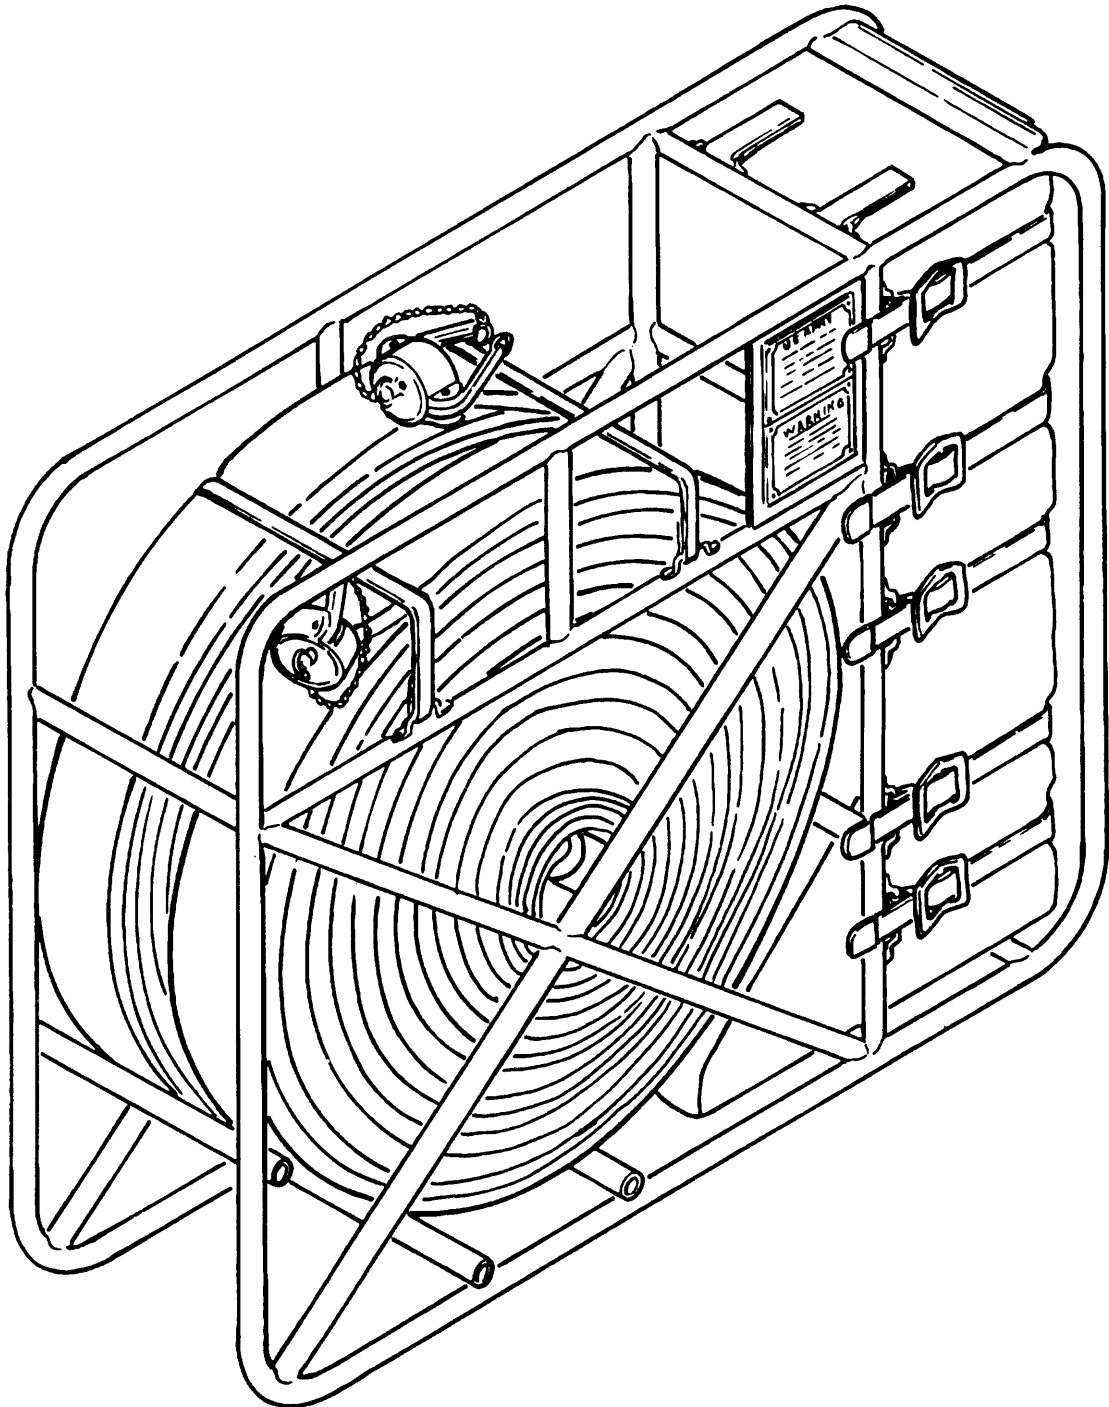

Figure 1-6. Hose and Component Kit-T.
d. Hose and Component Kit-T Discharge. (Refer to Figure 1-6.) Hose and component kit-T is used during single point refueling operation. Located in the container is one each butterfly valve, one each tee assembly, one each valve elbow coupler, one each adapter, male by male, 2 in. by 2 in., one each nozzle adapter, one each nozzle assembly, and one each adapter assembly, 3 in. female by 2 in. male.